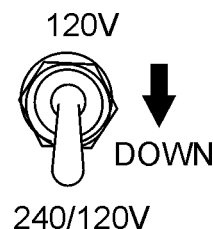

Figure 19. Full Power Switch 240/120 V Position (Down)
- Place the full power switch (Figure 19) in the 240V position (down).